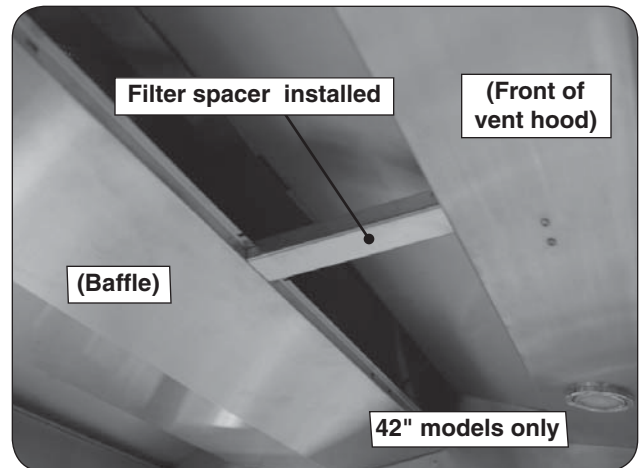

Fig. 14-3
1. Install the filter spacer (if applicable, 42" models only). See Fig. 14-3. Repeat for other side.